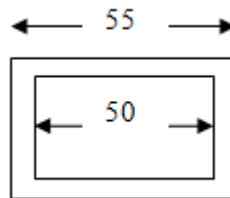

Fig.3
- 12 a) Discuss the Maxwell reciprocal theorem. (2)
- b) A shaft of square section as shown in Fig. 3 below is subjected to a twisting moment such that the maximum shear stress is limited to  $250 \text{ N/mm}^2$ . Obtain the torque and angular twist, if shaft is 1.6m long (Take  $G = 70000 \text{ N/mm}^2$ ). (8)